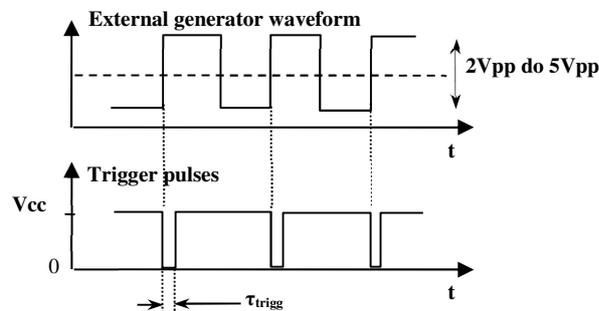

Fig.6. External generator waveform and trigger pulses.
- Trigger pulses on transistor collector should look like in Fig.6. Duration time of these pulses should be as short as a few μs . If not check the circuit.